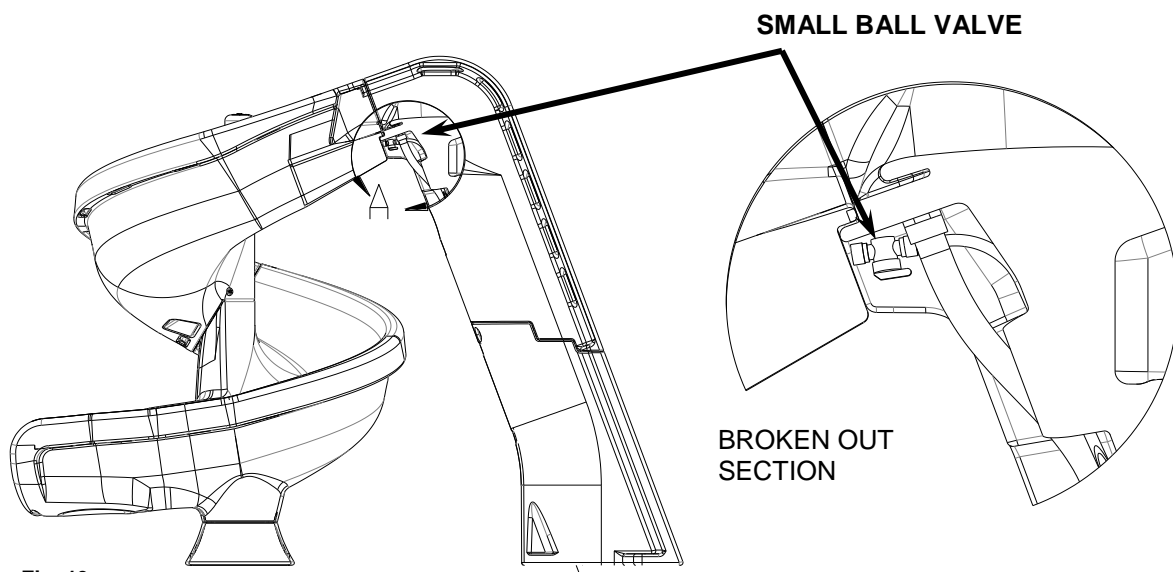

Fig. 13
17) Use plumbers tape (Teflon tape) when permanently assembling the $\frac{3}{8}$ " to $\frac{1}{2}$ " *barbed 90° elbow fitting (22)* to the *1" PVC Slip Reducer to $\frac{1}{2}$ " Threaded Female (21)*.
18) Glue the top end of the *1" PVC Flex Hose 16" long (23)* into the fitting in the ladder.
19) Route the $\frac{1}{2}$ " *Polypropylene Tubing (27)* behind the *1" PVC Flex Hose 16" long (23)* as shown in Figure 12 Detail C. Connect the $\frac{1}{2}$ " *Polypropylene Tubing (27)* to the small ball valve attached to the top runway section by pushing the $\frac{1}{2}$ " *Polypropylene Tubing (27)* into the end of the ball valve firmly as far as it will go. See Figure 13.
4. The helix™ can handle up to 20 gallons per minute (75 L/min). Water flow to the main water supply is to be regulated using the ball valve (16) near the center of the ladder. The fountain feature can be regulated via the small ball valve just under the top of the ladder. Figure 13 shows the location of the small ball valve.